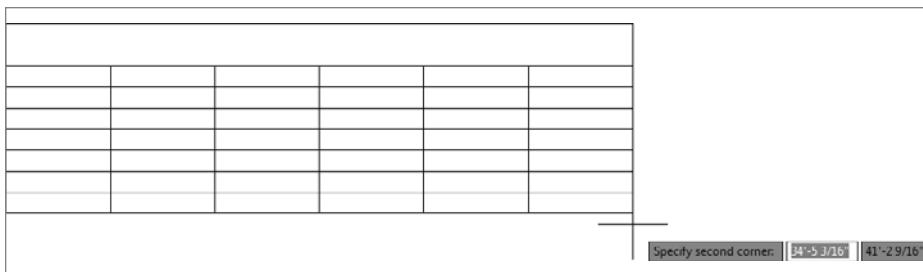

FIGURE 9.65 The new table inserted in the drawing
6. Drag the cursor across the drawing and down until the screen displays a table that has eight rows (six data rows, a header row and title row) and then release the mouse button (see Figure 9.65).